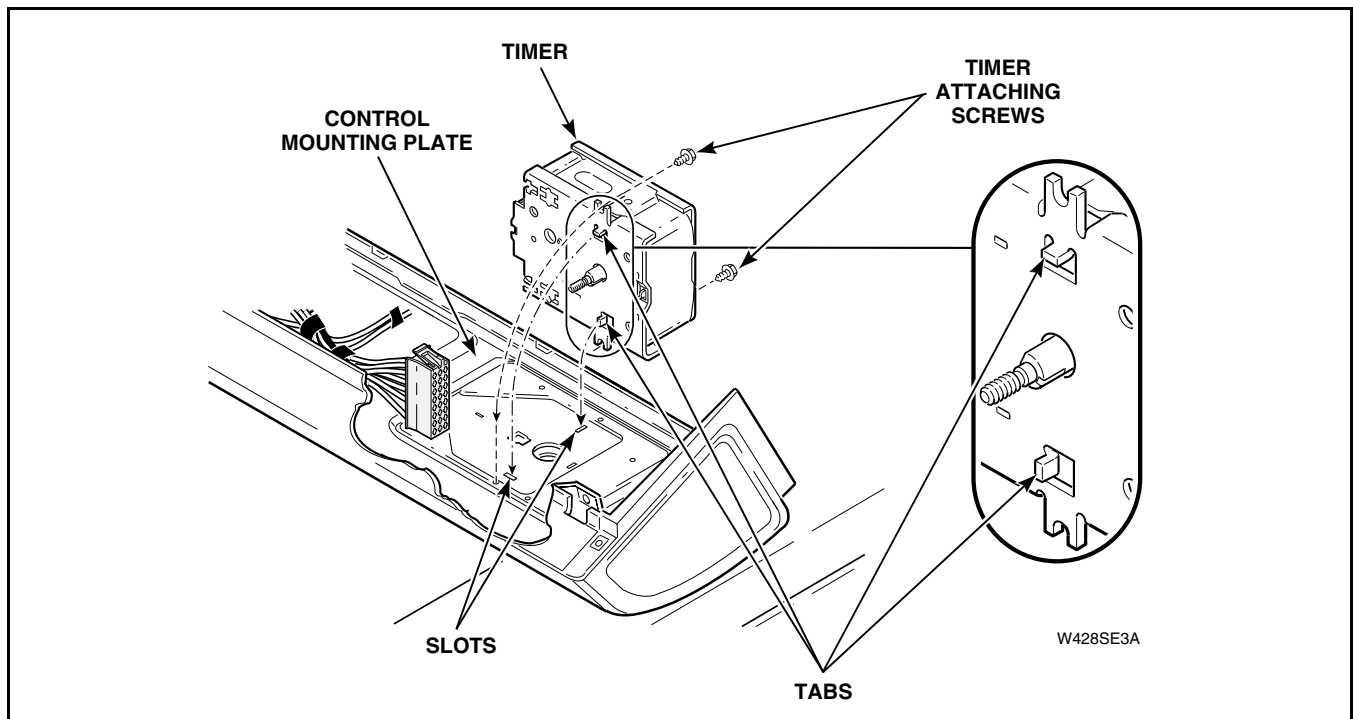

Figure 8
- f. Seat horizontal and vertical tabs on front plate of timer completely into slots on control mounting plate. Refer to *Figure 8*.